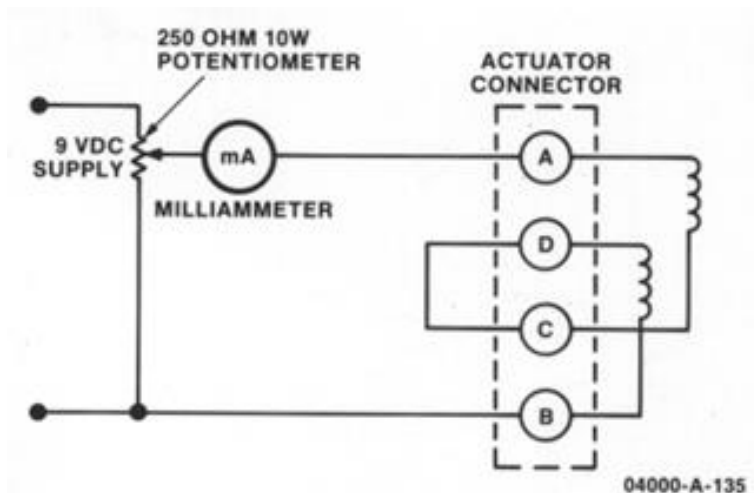

Figure 4-1. Wiring Diagram for Circuit to Test Actuator Output
5. Use the circuit outlined in Figure 4-1 to check the actuator output. The actuator should be at minimum fuel position at 0 mA, and it should be at maximum position at 200 mA. The movement from minimum to maximum should be even, and the output shaft should repeat to the exact same location at the same current setting.